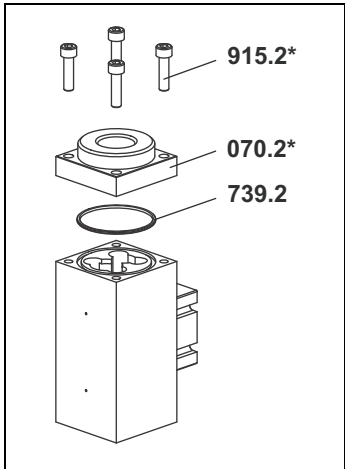

Fig. 3
4. Remove the socket screws **915.2***, take off end cover **070.2*** and o-ring **739.2**, see Fig. 3, page 26.